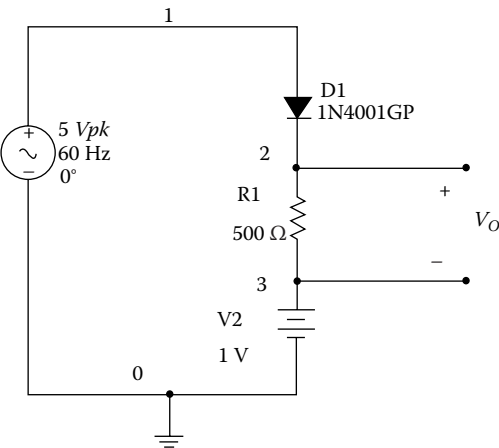

FIGURE P6.4
Problem P6.4 A battery-charging circuit is shown in Figure P6.4. The battery voltage is 1 V. The source voltage is $v_s(t) = 5\sin(120\pi t)$ V, and the load resistance is 500Ω . Use the Analog Discovery board to (1) display the input voltage, (2) plot the current flowing through the diode, (3) measure the conduction angle of the diode, and (4) determine the peak current flowing through the diode.